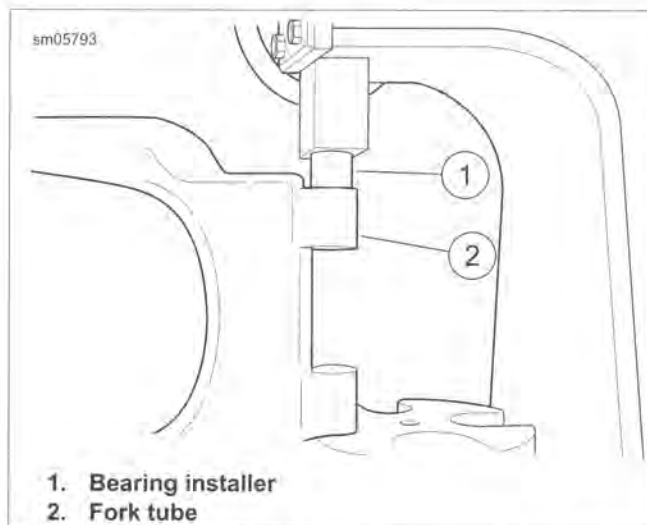

Figure 2-83. Install Rear Fork Bearing (typical)
3. See Figure 2-83. Support fork squarely on press bed with the brake anchor weldment on top.
5. Using REAR FORK BEARING INSTALLER (Part No. HD-45327) (1) stamped "Brake Side", press on bearing until shoulder on tool makes contact with fork tube (2).